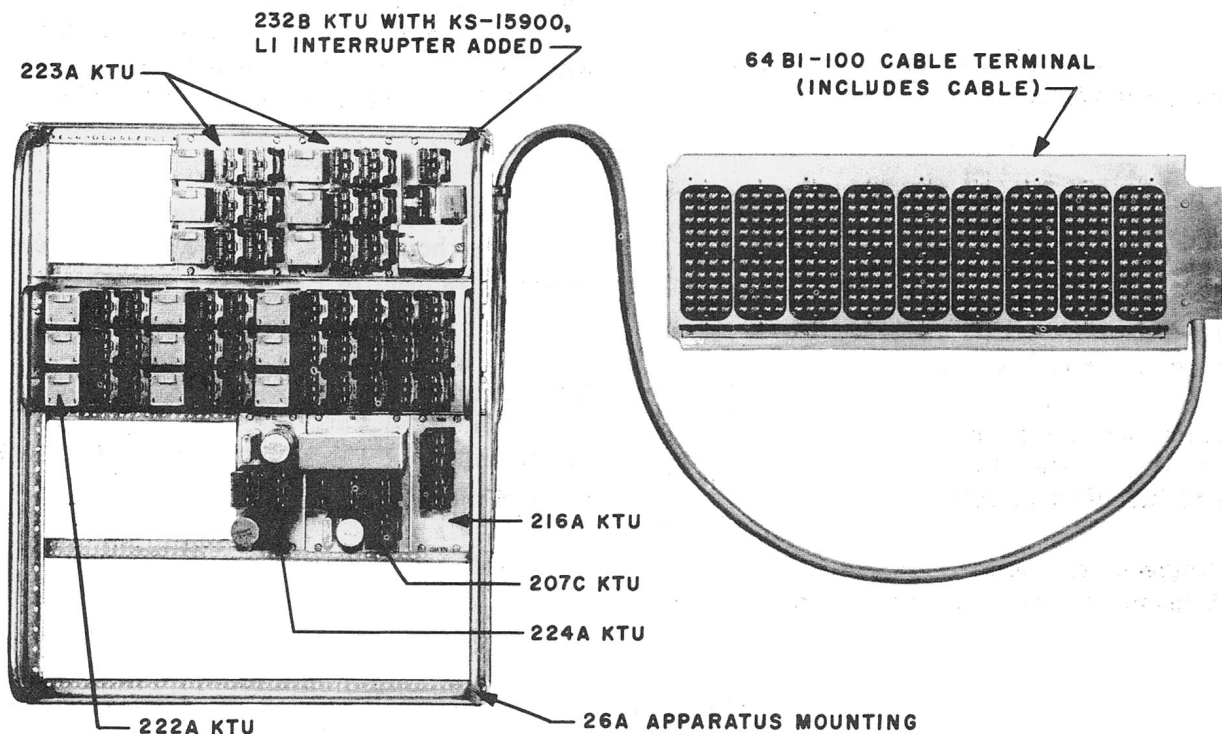

Fig. 1 — 200H15DC Key Telephone Unit
2.02 The 200H-type KTU consists of panel-type key telephone units mounted and factory-wired on a 26A apparatus mounting, with or without a 64B1-100 cable terminal. (See Fig. 1.)